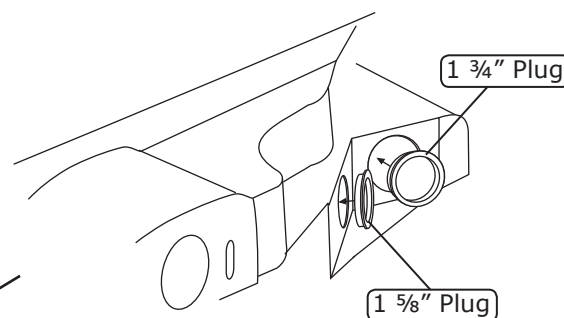

Figure 1a
12. Install a 1 $\frac{5}{8}$ " and 1 $\frac{3}{4}$ " plug in the firewall as shown in Figure 1a, below.